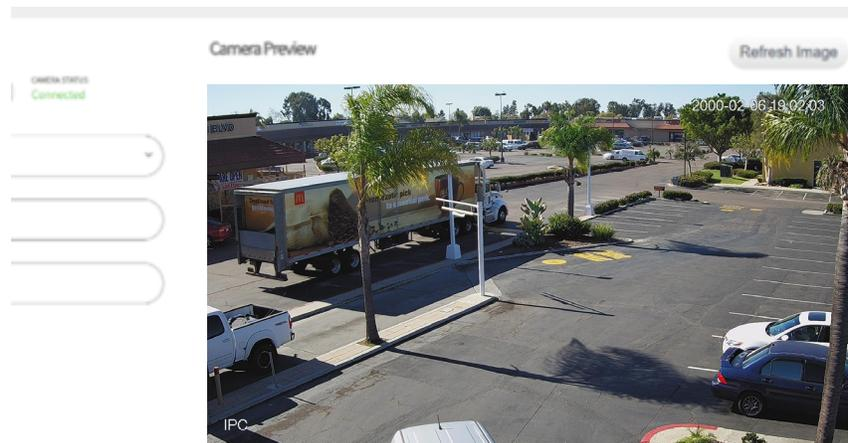

Fig. 5.3
- Once all the fields are populated, press Save. The Camera Preview window shows the camera's view, see example in Fig. 5.3.